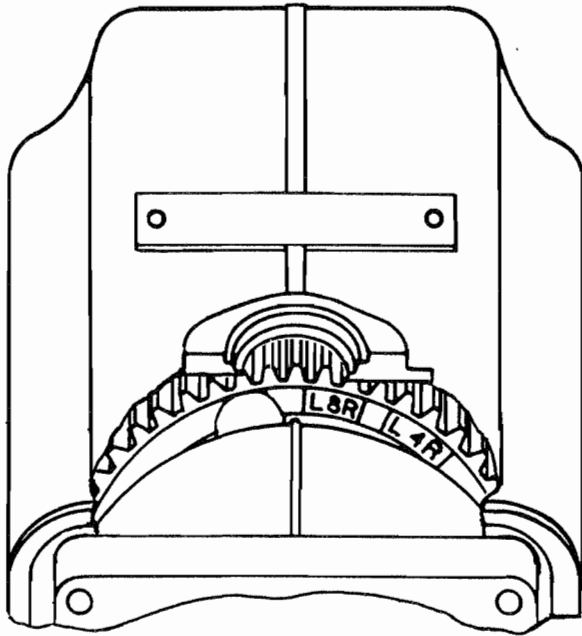

Figure 912. 8-Cylinder with Retard Contacts, Left Hand Rotation
- (2) 8 cylinder retard contact type: The timing rib on the distributor block must fall within one tooth to the left of the L8 mark. See Figure 912.